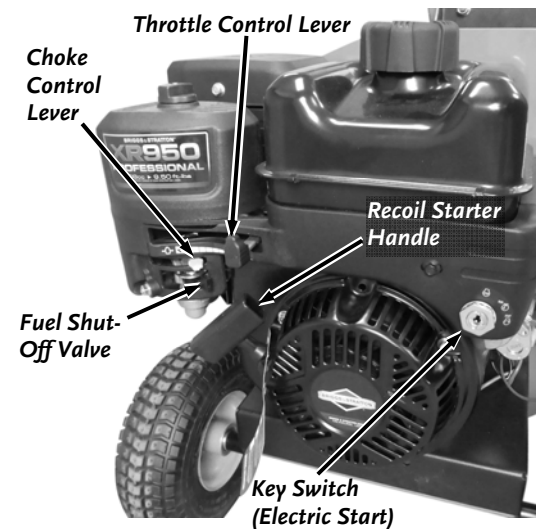

Figure 17
- Ensure the Fuel Shut-Off Valve is moved to the right in its OPEN position (**Figure 17**).
1. Move the Choke Control Lever to the left to the Choke position (**Figure 17**) (leave in the Run position to the right if the Engine is already warm).
Move the Throttle Control Lever all the way to the right past the SLOW  position to the "STOP" position (**Figure 17**).
Turn the Key to the Stop  position (**Figure 17**). Remove the Key for safety.